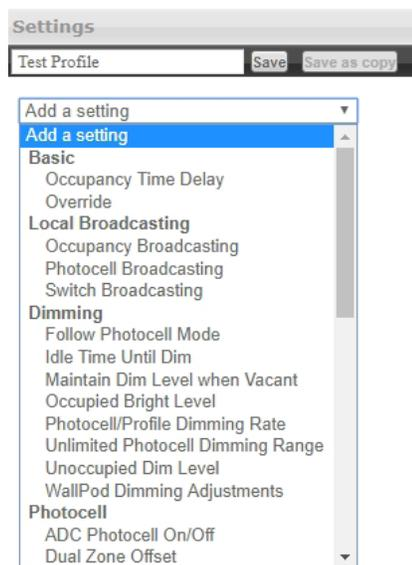

Figure 67: Select Settings
4. Select the desired settings for the selected devices via the **Add a Setting** drop down menu (Figure 67). Multiple settings can be added to the profile and will affect the applicable selected devices.